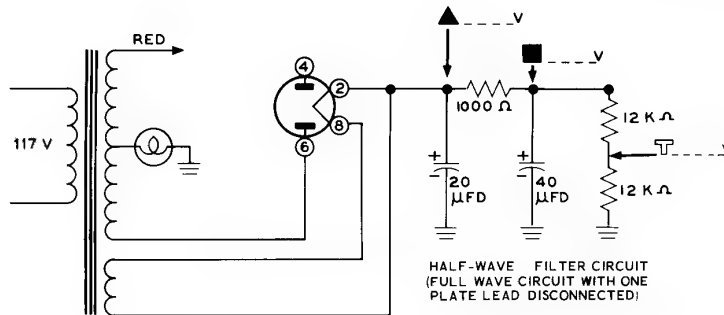
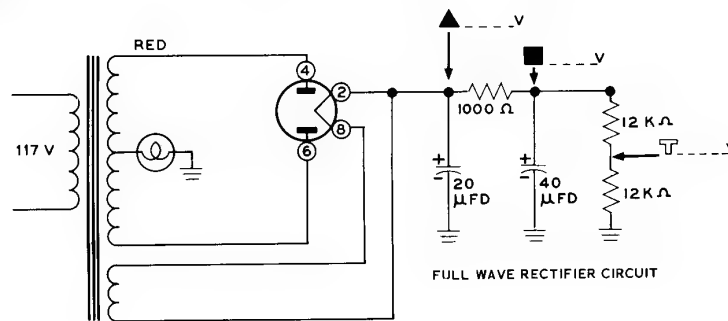

Figure 2L
Figure 2M
- () Figure 2L shows your power supply circuit as it is now connected, as a half-wave rectifier. Very carefully measure each of the three voltages at the points indicated, and write each voltage down in its proper blank.
- () [] Temporarily, reconnect the red transformer lead to pin 4 of the 5Y3 socket (S).
- () Figure 2M shows your power supply circuit as it is now connected, as a full-wave rectifier. Once again, very carefully measure each of the three voltages at the indicated points, and write each voltage down in its proper blank.
- () [] Now connect the free lead of this .005 μ fd capacitor to lug 2 of the 5Y3 socket (S).
- () Disconnect the red wire from pin 4 of the 5Y3 socket, and place tape over it as you did before. This has returned the circuit to the half-wave circuit of Figure 2L.
Experiment 1 showed you that a higher output voltage is obtained from a full-wave power supply circuit than is obtained from a half-wave power supply circuit. Compare the voltage that you wrote down in Figure 2L and Figure 2M. Notice that each of these voltages has become larger in Figure 2M the full-wave power supply. Remember the reason for the increase in voltage that was given when you were studying the full-wave power supply of Figure 2G. Filter capacitors were not able to discharge as quickly because twice as many pulses were present at the output of the full-wave rectifier. Thus the circuit became much more efficient. This also caused the ripple to be lower in amplitude than the ripple in the half-wave circuit.